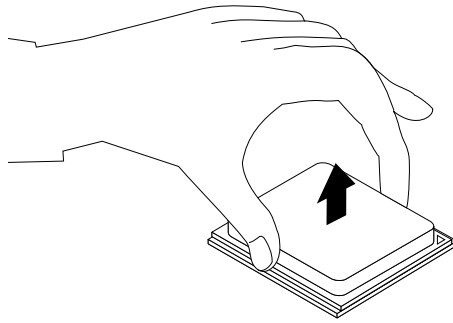

Figure 22. Removing the microprocessor
5. Lift the microprocessor straight up and out of the microprocessor socket, as shown in Figure 22 “Removing the microprocessor” on page 27.